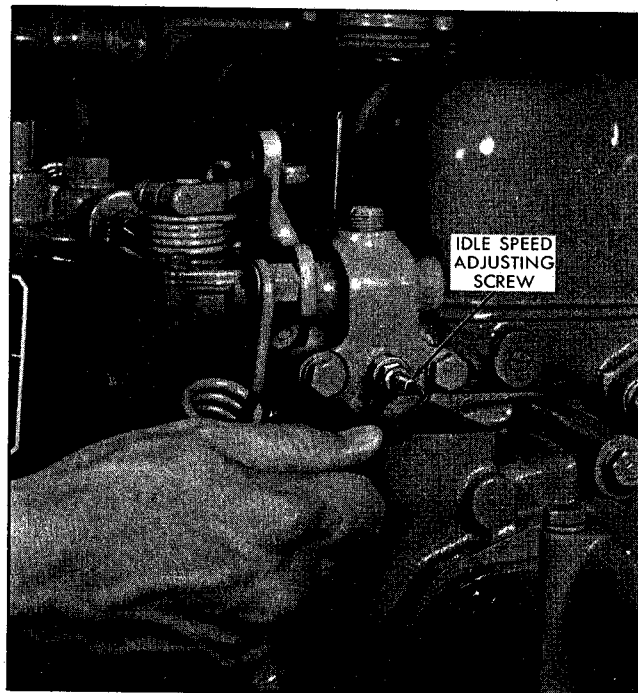

Fig. 12 - Adjusting Idle Speed
2. With the engine operating, loosen the lock nut and turn the idle speed adjusting screw (Fig. 12) in or out until the engine idles at the recommended speed. The recommended idle speed is 500 rpm for engines operating up to 2500 rpm or 550 rpm for engines operating at higher speeds. However, the idle speed may vary with special engine applications.